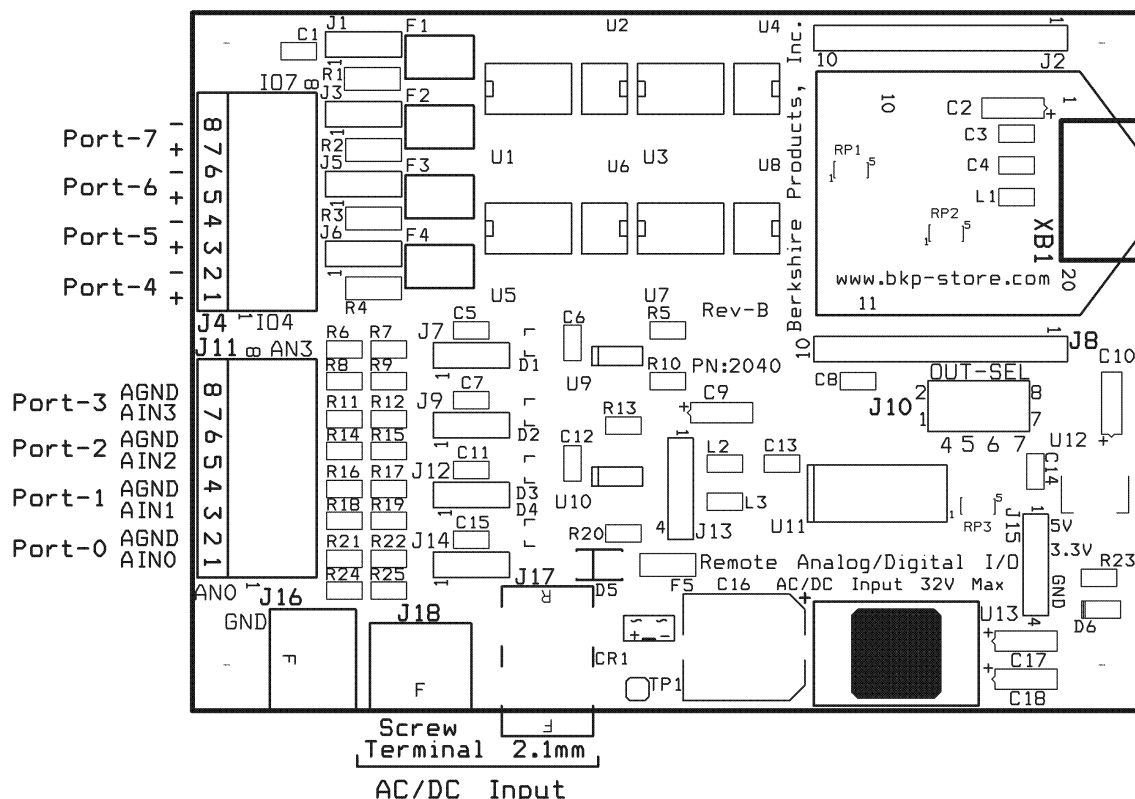

Figure 3-1
On these boards Ports 0-3 are the analog inputs and Ports 4-7 are the digital I/O (see Figure 3-1).
The board can accept DC or AC power input. This can be with stripped wires connected to the screw terminal at **J18** or the 2.1mm power connector **J17** (see Figure 3-1). The DC supply is not polarity sensitive since the board has a bridge rectifier on the input. DC power is the preferred input type if available.
The inputs and outputs are wired to the connectors **J4** and **J11** (Phoenix Contact PN: 1990067). They will accept stripped wire in the range of 20-26 gauge. The bottom of the connector is Pin 1 and the top is Pin 8 (See Figure 3-1). Use a small flat screwdriver to push down on the wire release tab, insert or extract the wire, and then release the tab.
**Note:** Refer to Table 3-1 and Figure 3-1 to be sure you connect the plus (+) and minus (-) DC inputs correctly for each port.